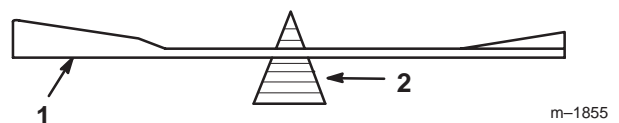
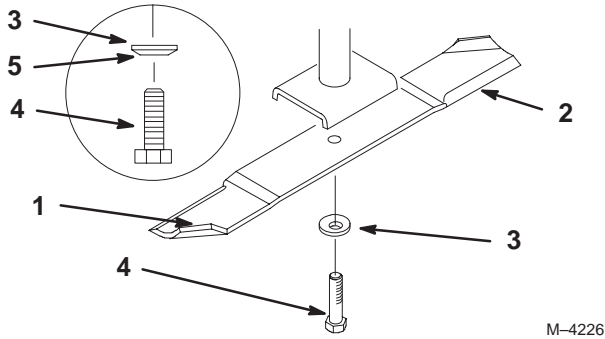

Figure 36
Figure 37
1. Hold the blade end using a rag or thickly-padded glove. Remove the blade bolt, spring disk and blade from the spindle shaft (Fig. 37).
2. Check the balance of the blade by putting it on a blade balancer (Fig. 36). If the blade stays in a horizontal position, the blade is balanced and can be used. If the blade is not balanced, file some metal off the end of the sail area only (Fig. 37). Repeat this procedure until the blade is balanced.
1. Install the blade onto the spindle shaft (Fig. 37).
2. Install the spring disk and blade bolt (Fig. 37). **Torque the blade bolt to 85–110 ft-lb (115–150 N m).**